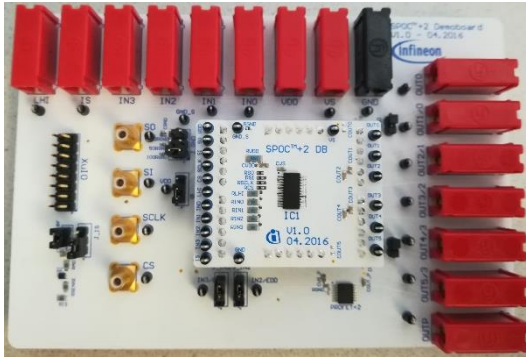

Figure 11 – SPOC™+2 DB plugged onto SPOC™+2 MB
- Plug the SPOC™+2 DB onto the SPOC™+2 MB (see Figure 11)